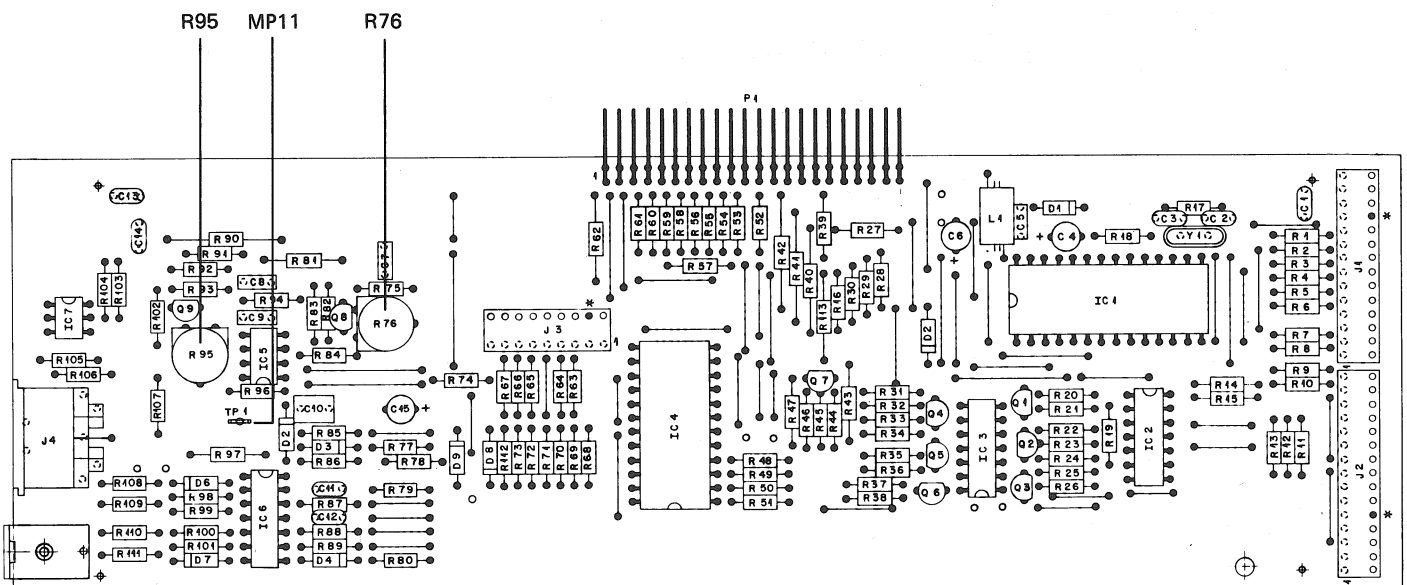

Fig. 4.7
- Press station selector key 12 (97.925 MHz) and adjust the reading on the digital voltmeter to 1.8 V $\pm$ 10 mV with R95 (1.726.780, Fig. 4.7).